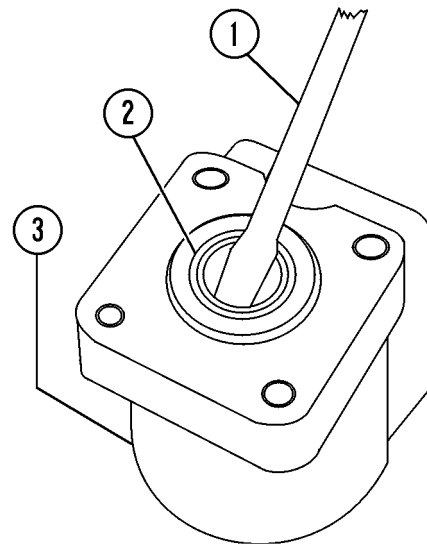

FIGURE 5-6. DUST SEAL REMOVAL
10. Remove O-ring (5), kin ring (6) and bearing assembly (7).
11. Remove ring (8) and pin (9) and carefully push inner spool out of outer sleeve.
12. Press the neutral position springs (10) out of their slot in the inner spool.
13. Remove the dust seal (2, Figure 5-6) using a screwdriver. Take care not to scratch or damage the dust seal bore.